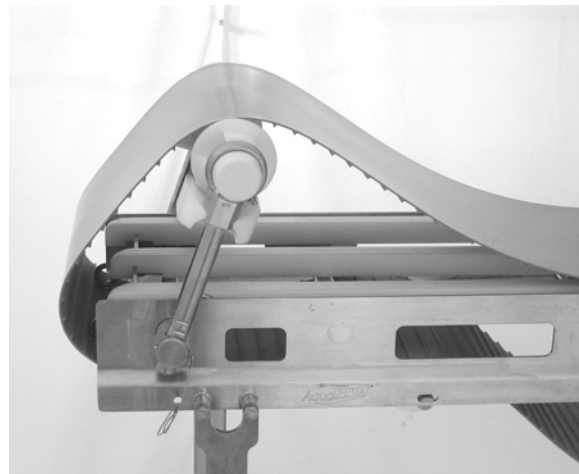

Figure 39
2. Tip up idler tail assembly (**Figure 39**).